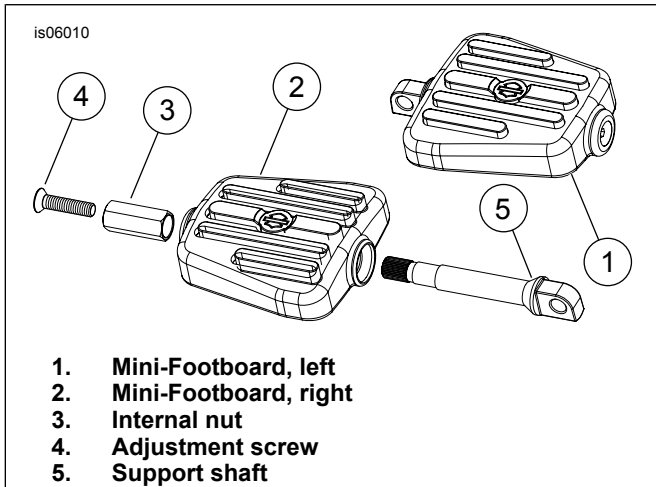

Figure 2. Mini-Footboard Kit: 50451-09
- For Kit 50451-09, see Figure 2. There are no service parts for this kit.
6. To adjust the footboard for comfort: 50451-09 kit, see Figure 2.
- a. Remove the adjustment screw (4).
- b. Partially remove the tread assembly (1, 2, 3) from the support shaft (5).
- c. Rotate the tread assembly around the support shaft. Teeth on the shaft will engage the internal nut (3) every 10 degrees.